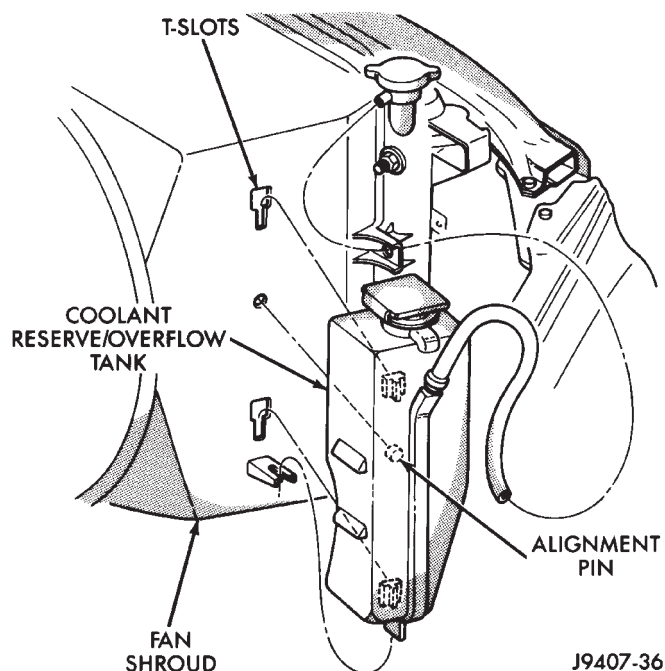

Fig. 24 Coolant Recovery Bottle
- (1) Remove overflow hose from radiator.
- (2) Unsnap the coolant reserve/overflow tank from fan shroud. Lift straight up. The fan shroud is equipped with T-shaped slots (Fig. 24) to attach the tank. An alignment pin is located on the side of tank.